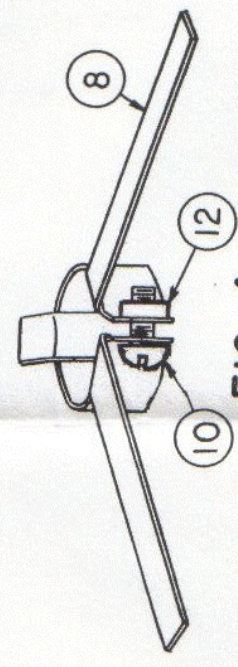

FIG. 4
3. Prepare the Spider as shown in Figure 4. Bend the legs down at right angles. Use pliers and bend the legs as close to the clamp as possible and as sharp as possible. Add screw, nut and assemble loosely to top of base.